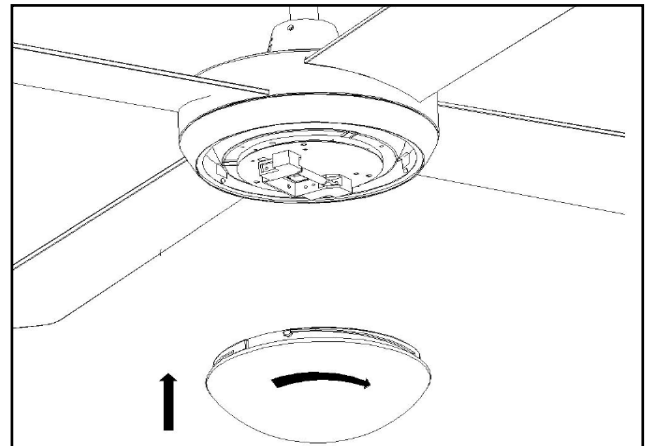

Fig. 12
- Carefully place the glass shade cover over the lamp and twist clockwise to lock it. Fig 12.